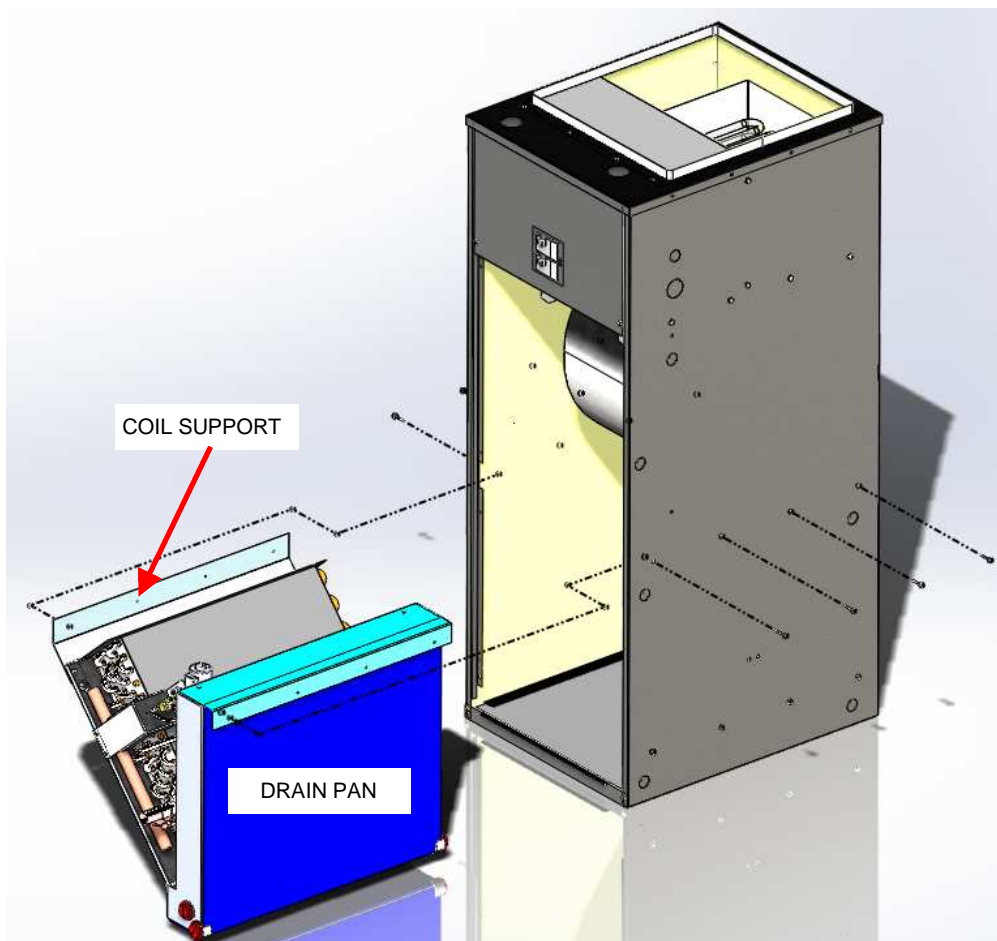

Figure 23
5. Remove 4 screws on the drain pan side of the cabinet (right side shown in Fig. 23). Remove 4 screws from coil support side of the cabinet (left side shown in Fig. 23).